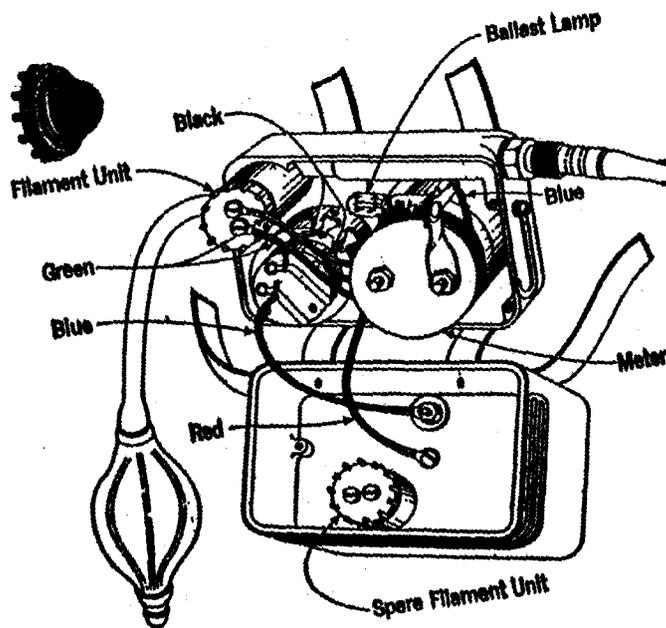

Fig. 4
3.07 Detector Unit: If the meter needle moves to the extreme right side of the scale when the indicator is turned on and cannot be adjusted to zero, it indicates that the filament is burned out and should be replaced. To replace the filament unit, remove the top of the case, disconnect the green wires from the terminals at the base of the filament unit. Unscrew the unit counterclockwise. Screw the replacing unit tightly in the combustion chamber making sure that the gasket is clean and properly seated. Then replace the green wires and replace the top of the case. Space is provided in the case for a spare filament unit (see Fig. 4).
3.08 Ballast Lamp: This lamp must be firmly screwed in the socket and should have indefinite life. In case of breakage it should be replaced with a ballast lamp for B Gas Indicator (see Figure 4).